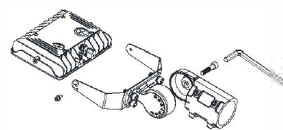

Fig. 4.1
1. Separate the slip fit bracket in 2 pieces (Fig. 4.1).